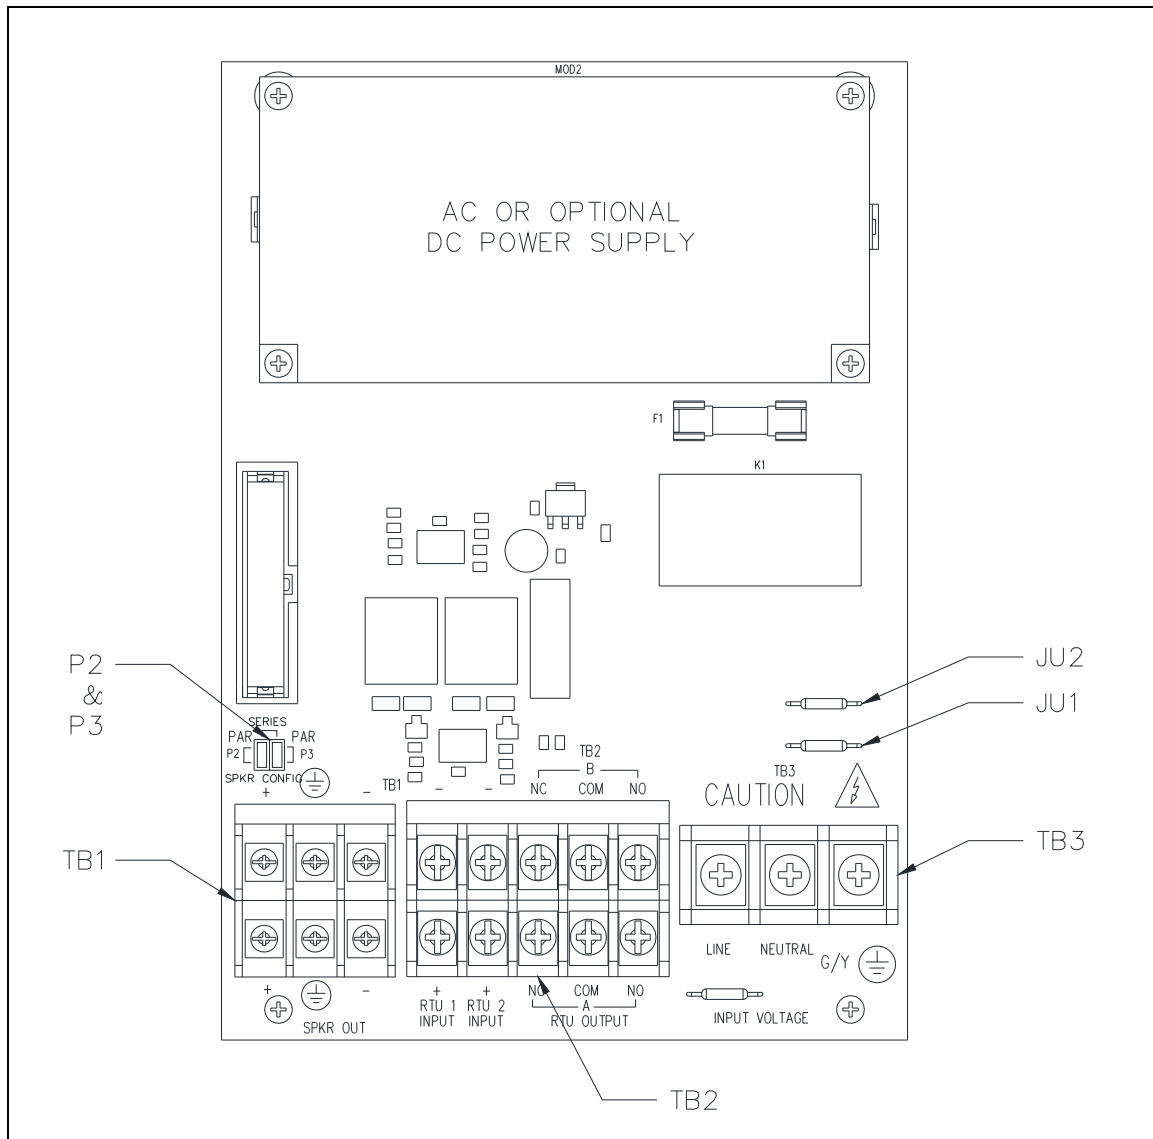
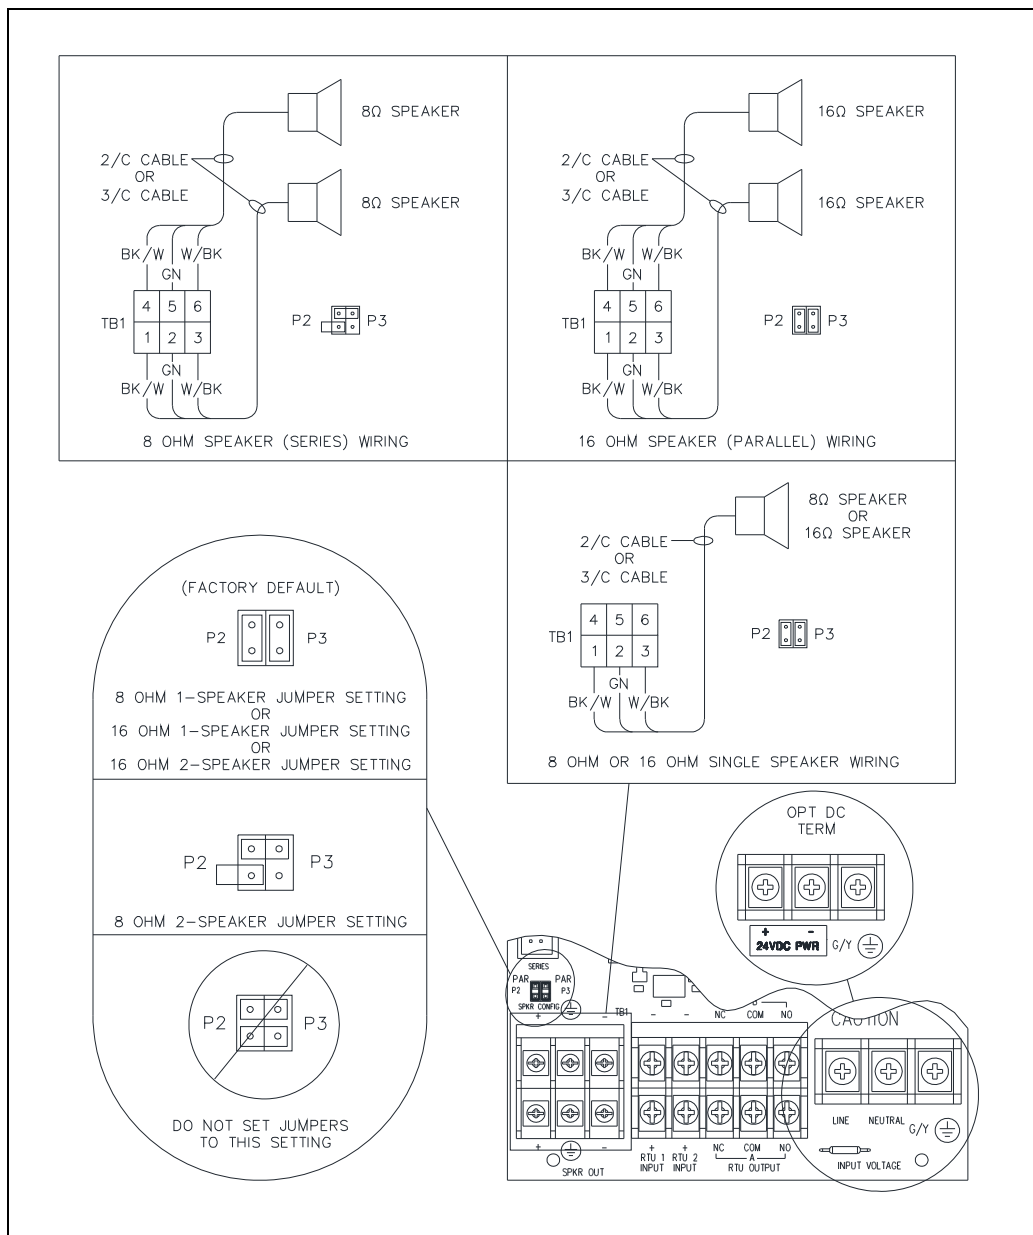
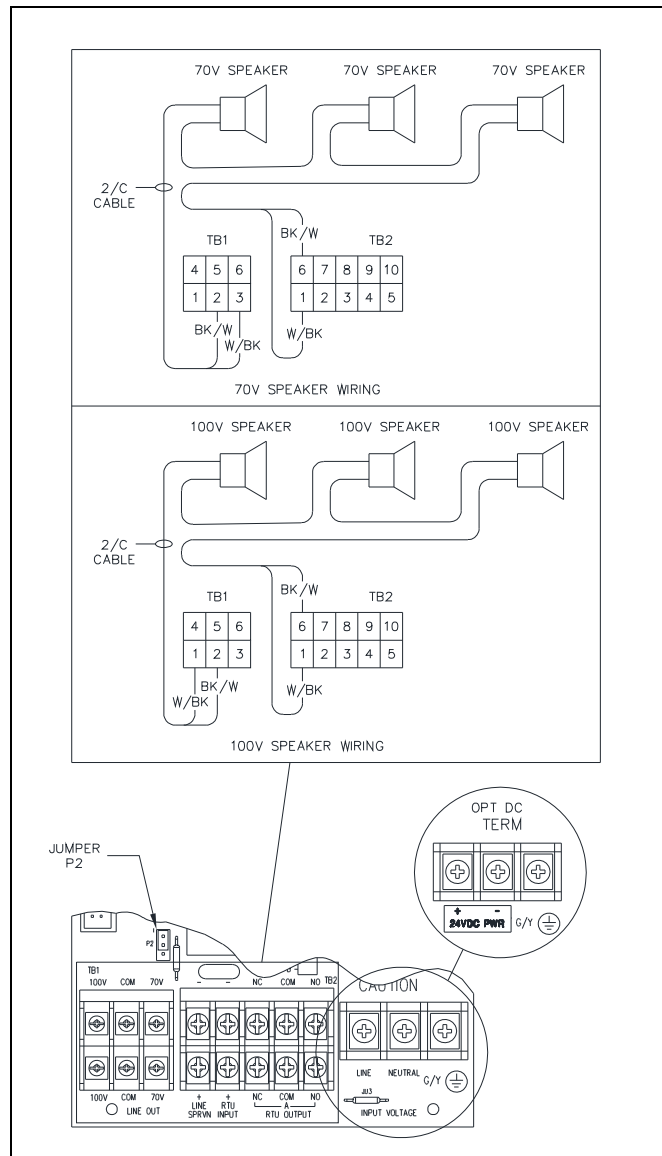
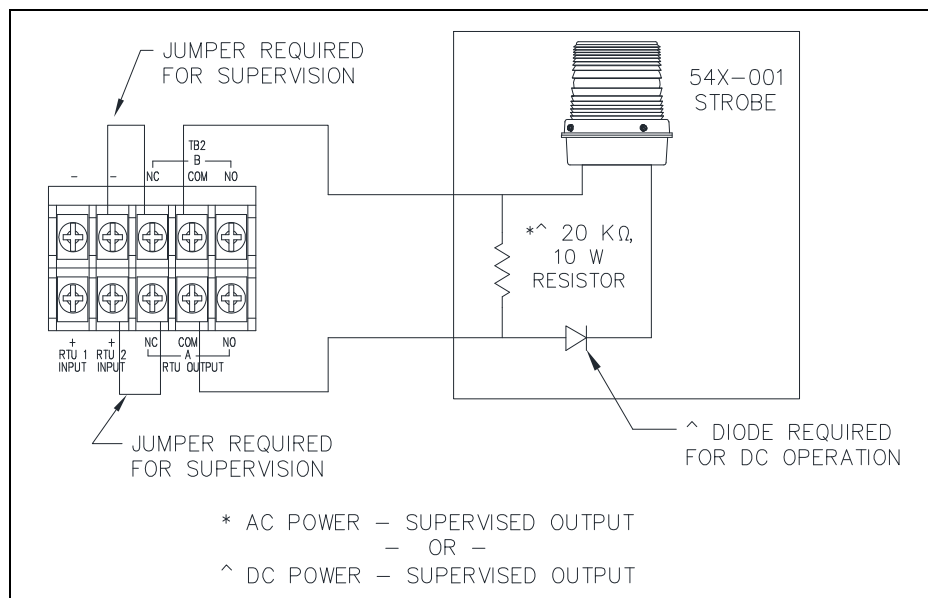

Figure 4. SP2 Standard Termination PCBA
Figure 5. 8/16-ohm Speaker Impedance Configuration and AC/DC Termination at TB3
Figure 6. 70-V/100-V Termination PCBA
Figure 8. Supervised Output Wiring—TB2
5. Configure the speaker jumpers; P2 and P3, for the appropriate impedance for use with 8-ohm or 16-ohm speakers (see Figure 4 and Figure 5).
The optional 70-volt/100-volt speaker line-monitoring PCBA replaces the standard termination board and enables connection of 70-volt and/or 100-volt speakers to the SP2 station. Terminal block TB1 provides termination for the station’s speaker loop(s). Wire all speakers in parallel. Monitor one speaker loop by terminating the return cable to the LINE SPRVN terminals at terminal block TB2 (see Figure 6 and Table 2).
The standard termination PCBA contains two auxiliary RTU inputs. The optional 70V/100V termination board provides speaker line monitoring and has just one auxiliary RTU input. These inputs are terminated at terminal block TB2 (see Figure 4).
Two form C contacts are provided to power a beacon (see Figure 8). Terminate the outputs at terminal block TB2 on the termination PCBA (see Figure 4). Remove jumpers JU1 and JU2 to configure the outputs for dry contact use.
5. Install a 20-kilohm 10-watt resistor across the terminals of the beacon (see Figure 8).
6. Install jumpers at terminal block TB2 to enable cable monitoring (see Figure 8).
The ac or optional dc power supply is on the termination PCBA. Connect the local ac or dc power source to terminal block TB3 (see Figure 4, Figure 5, and Figure 6):